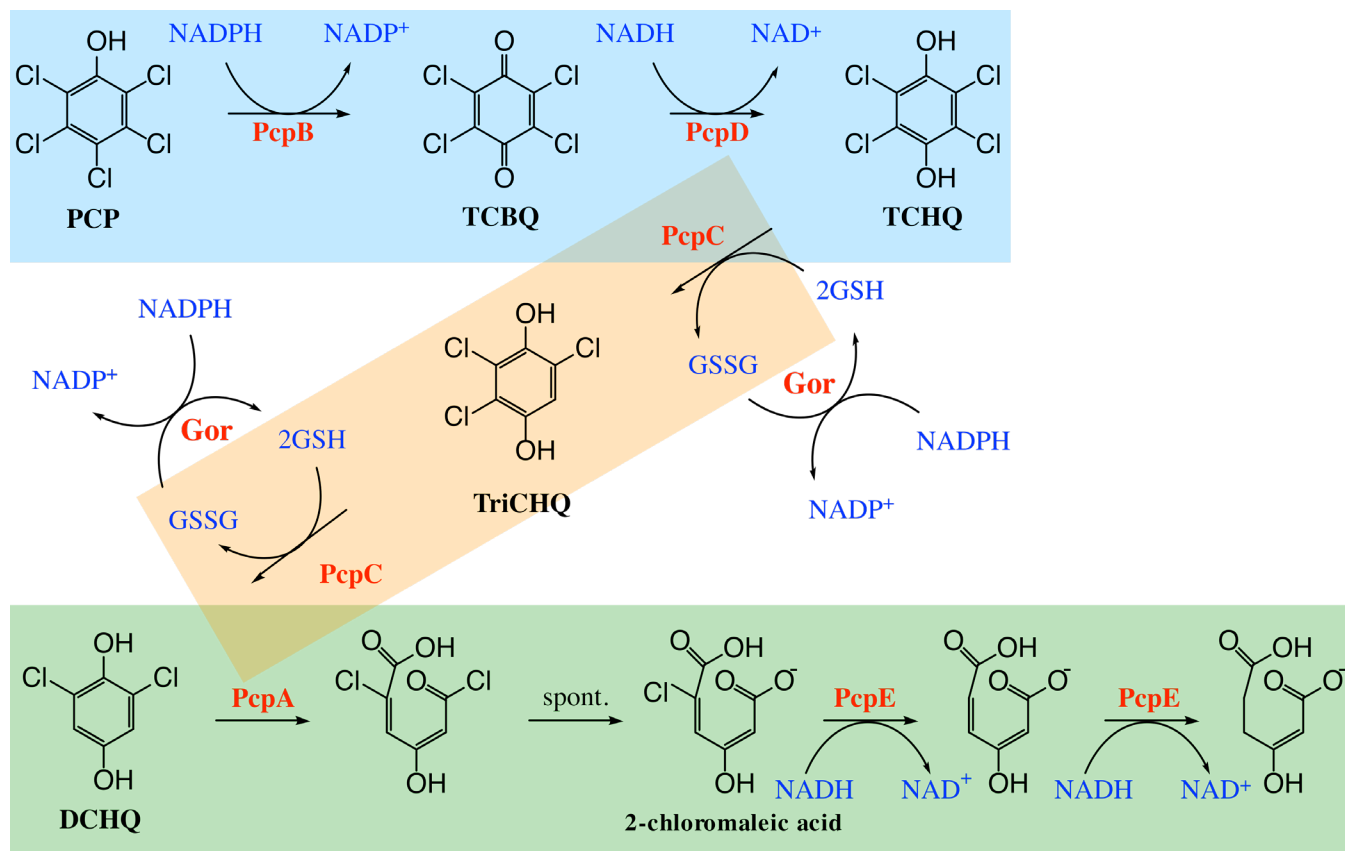

Figure 1. PCP degradation pathway.
2. In groups, draw on the pathway below (Figure 1) your plan to optimize the system. Keep in mind growth rates, degradation of PCP and its toxic intermediates, and competing pathways.